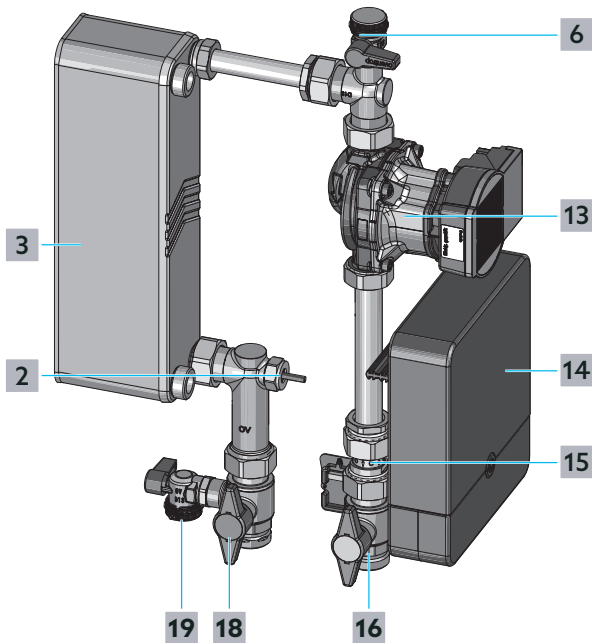

Fig. 20: Filling and venting of the storage cylinder circuit
- 1** Slowly open the shutoff ball valve for storage cylinder circuit supply (position **18** in Fig. 20 on page 28 and in Fig. 1 on page 11).
- 2** Unscrew the cap of the fill and drain ball valve for storage cylinder circuit return (position **6** in Fig. 20 on page 28 and in Fig. 1 on page 11).
- 7** Slowly open the shutoff ball valve for storage cylinder circuit return (position **16** in Fig. 20 on page 28 and in Fig. 1 on page 11).